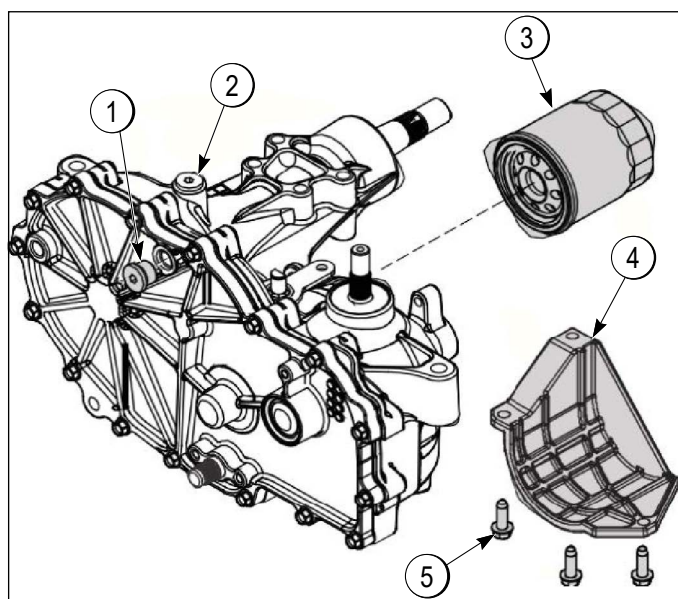
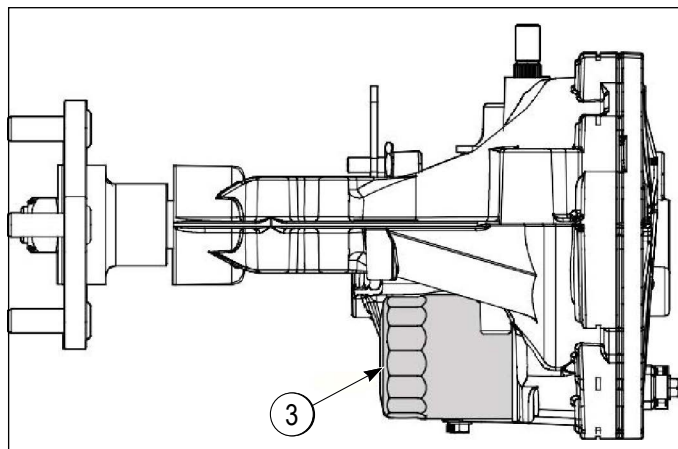

Figure 6-1
Figure 6-2
2. Remove the three 1/4 in filter guard screws (5) and filter guard (4). Clean any loose debris from around the perimeter of the filter. See Figure 6-1 and Figure 6-2.
3. Place an oil drain pan beneath the oil filter (3). Remove the oil filter (3) from the transaxle.
6. Install the filter guard (4) with three 1/4 in screws (5). Tighten screws to 65 in-lb (7.3 N•m) each.
9. Remove the top port plug (1) from the left side and right side transaxles prior to filling with oil. This will allow the transaxles to vent during oil fill.
NOTE: For units that do not have an external expansion tank, remove the fill port plug (2) on the top of the housing. See Figure 6-1.
11. Fill with 20W-50 motor oil until oil just appears at the bottom of each transaxle top port (1) (approximately 2 qt per transaxle, 4 qt total). Install the top port plug (1) into each transaxle as the oil level reaches this port. Install and tighten the top port plugs to 120 in-lb (20.3 N•m).
NOTE: For units that do not have an external expansion tank, replace the fill port plug (2) on the top of the housing (see Figure 6-1), tighten to 120 in-lb (20.3 N•m), and proceed to the purge procedure.